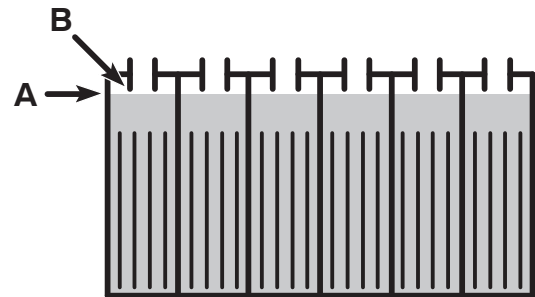

FIG. 33
3. Check the electrolyte level (A) in each battery cell **after charging batteries**. The level should be approximately 1 cm from the bottom of the fill-port (B). Add distilled water if needed (Figure 33). **DO NOT OVERFILL.**